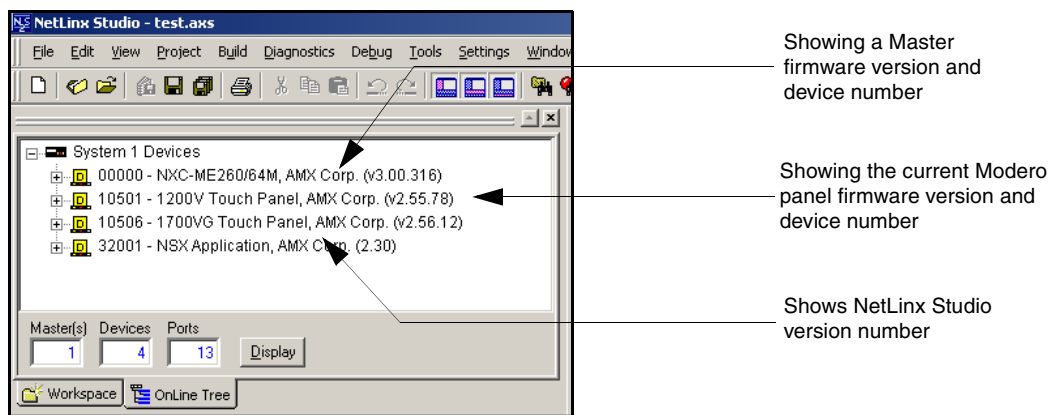

FIG. 97 NetLinX Workspace window (showing connected Modero panel)
3. After the Communication Verification dialog window verifies active communication between the PC and the Master, verify the panel appears in the **OnLine Tree** tab of the Workspace window (FIG. 97). *The default Modero panel value is 10001.*